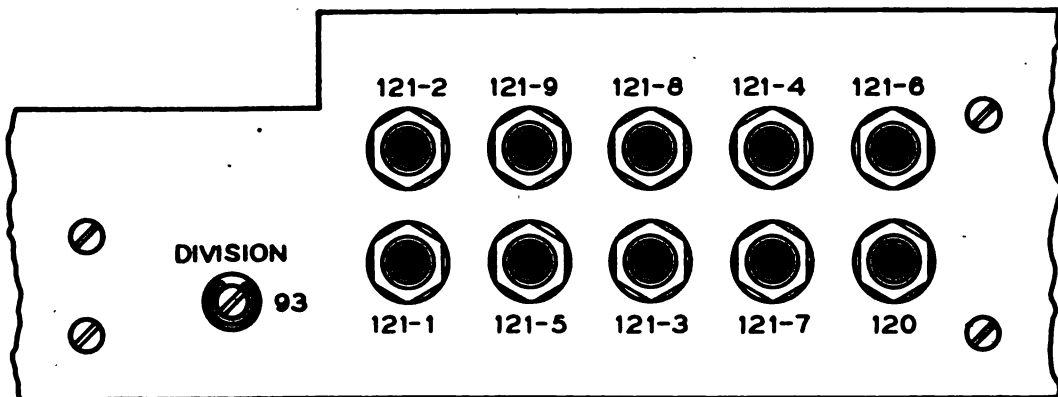

Figure 101. Control Unit BC-1378, side panel.
(1) Plug the headphones (which come with Signal Generator I-222-A) into jack 121-6 (fig. 101) to check the trigger sync pulses from the radar set. A rather high-pitched (1,706 pps) tone should be heard if the trigger sync pulses are coming in.
(2) Plug the headphones into jack 121-7 (fig. 101) to check the range sync pulses. If these pulses are coming in, a 1,706-pps tone should be heard. (When the radar set is Radio Set SCR-784, the range sync signal should be much louder than the trigger sync signal. The range sync pulse amplitude is 50 volts, and the pulses are 12 microseconds wide. The trigger sync pulse amplitude is only 12 volts, and the pulses are 1.2 microseconds wide.)
**d. Is Transmitter Failure Caused by Lack of Sync from Control Unit?** Plug the headphones into jack 121-4 (fig. 101). A loud, low-pitched tone (213 pps) should be heard if the transmitter trigger circuits are delivering sync pulses to the STANDBY-OPERATE switch. To check the sync pulses through the STANDBY-OPERATE switch, Cord CD-1382, and the rack wiring, snap the STANDBY-OPERATE switch to OPERATE and plug the headphones into the SYNCH. INPUT jack on the front panel of the receiver-transmitter.
**e. Is Lack of Video Display Caused by Fault in Control Unit?** Plug Cord CD-1105 between jacks 121-3 and 120 (fig. 101). This puts the video input directly on the top vertical-deflection plate. Turn up SENSITIVITY. If video signals do not appear, none are being delivered to the control unit. Check the receiver-transmitter and Cord CD-1382.
These jacks are mounted in the side panel of the control unit (fig. 101). The table below lists the waveforms (figs. 55 and 56) which should be seen when Cord CD-1099 is used to connect the test jacks to a test oscilloscope set for a sweep frequency of approximately 60 sweeps per second.